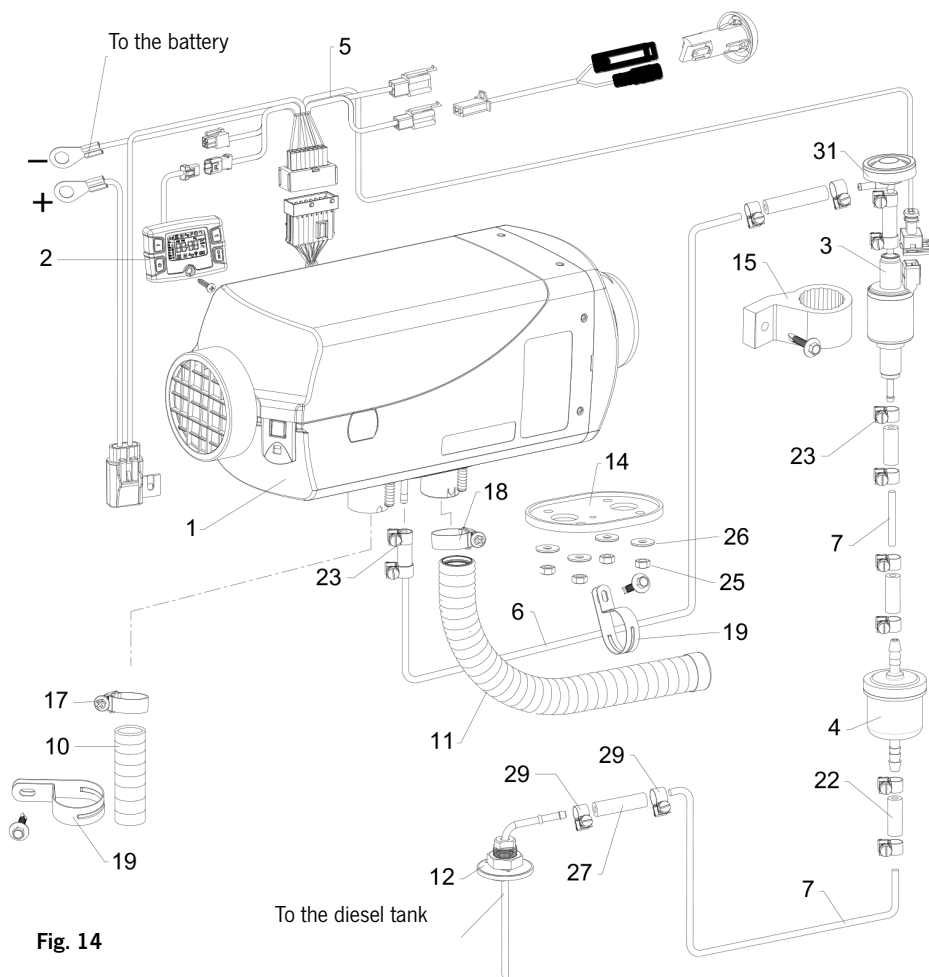

Fig. 14
32. VanHeat 4.0-DH | Product information | Spare parts list (see Fig. 14)